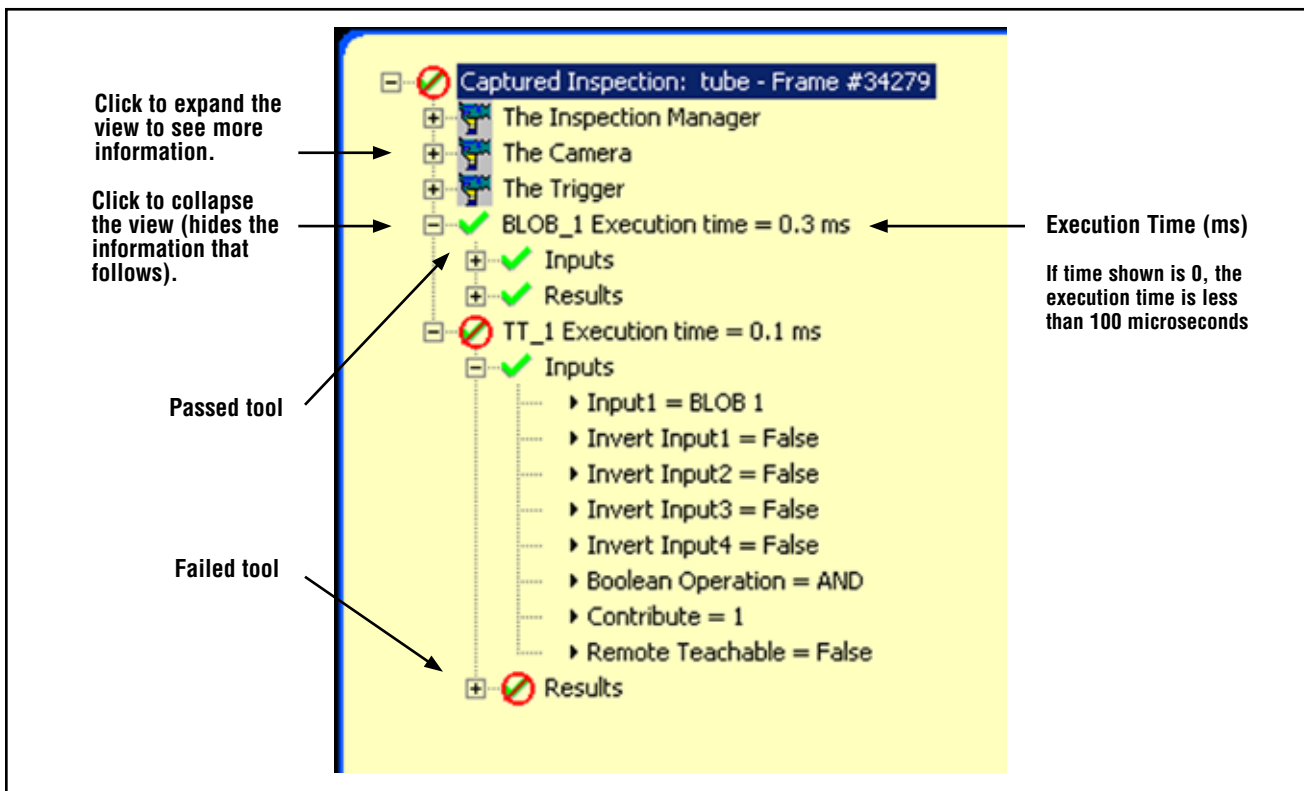

Figure 11-1. Results window
- If the current value falls within the Test tool's set tolerance or if the tool executed properly, then a green checkmark symbol is shown beside that parameter (see **Passed tool** in Figure 11-1).
- If the current value falls outside the Test tool's set tolerance or if the tool failed to execute properly, then a red failed symbol is shown beside that parameter (see **Failed tool** in Figure 11-1).